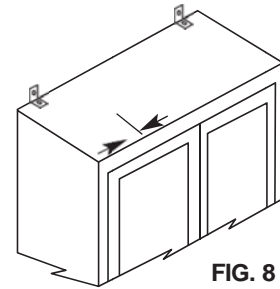

FIG. 8
3. Wood mounting cleat length should be 6" less than cabinet length; width should be 3" to 4" and thickness not less than 3/4". One cleat at the top of a cabinet is generally sufficient to hold it in position. Wood cleats should be secured to the wall using fasteners as required for wall material. (Due to varying wall construction, fastening devices are not included.) Wood cleats should be level and plumb. High spots in the wall should be leveled and low spots shimmed out to make the cleats straight. Check with straight edge and level vertical and horizontally. NOTE: Two small angles can be substituted for wood cleats. Locate the angles on top of the unit approximately 2" in from each side (see Figure 8). Securely fasten angles to both the wall and the top of the cabinet.